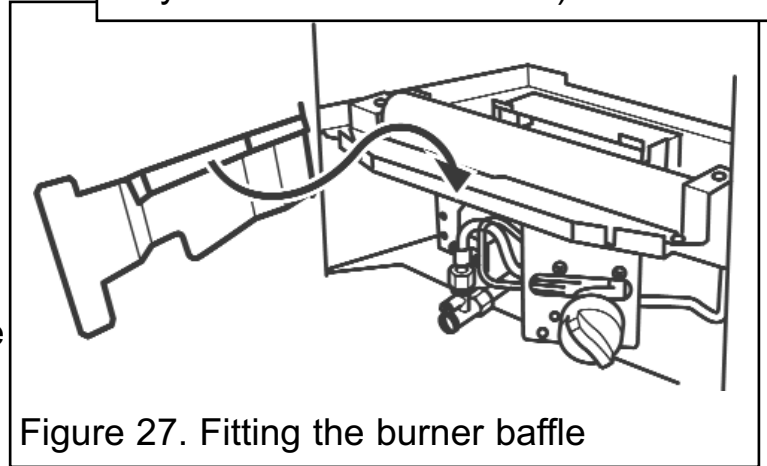

Figure 27. Fitting the burner baffle
4. Fit the burner baffle to the front flanges of the burner. To do this, place the baffle against the front flanges of the burner and lower into position. The return edges on the rear of the baffle should slot over the front flanges of the burner (See figure 27).
2. Fit the burner baffle to the front flanges of the burner. To do this, place the baffle against the front flanges of the burner and lower into position. The return edges on the rear of the baffle should slot over the front flanges of the burner (See figure 27).
5. **Blenheim, Camden, Seattle, Prelude and Sonnet only** - Fit the burner baffle to the front flanges of the burner. To do this, place the baffle against the front flanges of the burner and lower into position. The return edges on the rear of the baffle should slot over the front flanges of the burner (See figure 27).